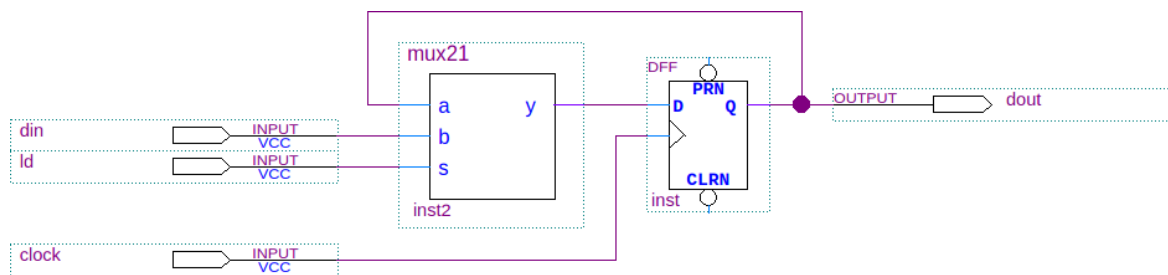

Figure 1.7: Register cell schematic.
1. Enter the register cell design as shown Fig. 1.7. Get the DFF symbol from the Quartus library and mux21 symbol from the previous step of this assignment.